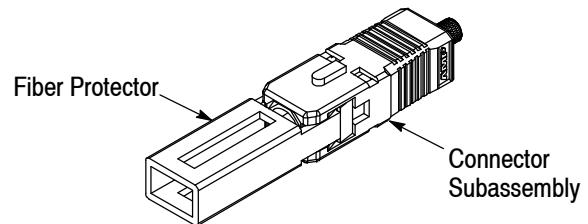

Figure 4
2. If using epoxy, install the fiber protector onto the connector subassembly as shown in Figure 4.